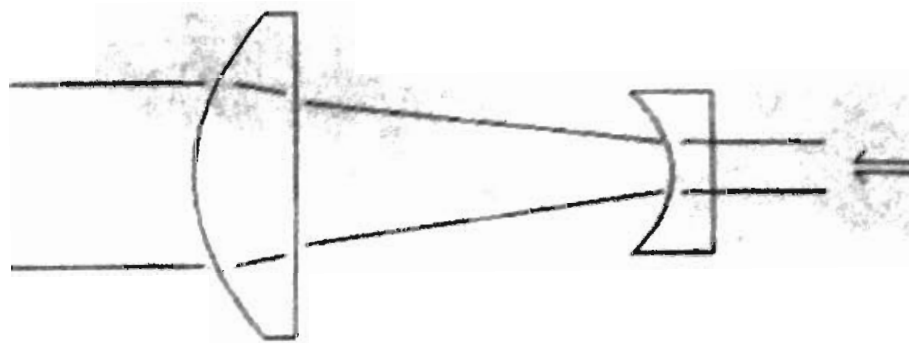

Fig. 1) Top view optics arrangement
**Step 3:** Set the convex lens in front of the concave lens as shown in fig. 1. Carefully slide it forward and back until an optimal far-field dot is achieved. You will want to turn the power up to induce and account for multimode fringes while fine tuning focus.